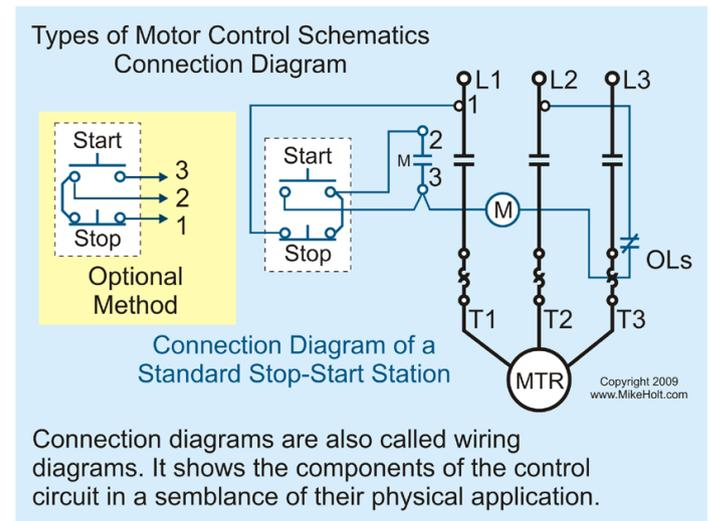

Figure 1-6
## (2) Connection Diagrams (Figure 1-6)
Connection diagrams, or wiring diagrams, show the components of the control circuit in a semblance of their actual physical locations. The start-stop pushbutton station is shown more as an actual device in the control circuit wired to a set of contacts marked 2 and 3. In Figure 1-4, the wires on each side of the M contacts trace back to points 2 and 3 on either side of the start pushbutton. The contacts marked M in Figure 1-4 are the same contacts as those marked 2 and 3 in Figure 1-6.
Connection diagrams are also called wiring diagrams. It shows the components of the control circuit in a semblance of their physical application. Different manufacturers of control devices, as well as books about motor controls, use different methods of showing the control circuit wiring. For example, in Figure 1-3B1, the control wiring from the start-stop pushbutton station runs to the actual connection points 1, 2, and 3. As the wiring diagrams become more complicated, the optional method shown in Figure 1-3B2 is frequently used to show the connection points for the start-stop pushbutton station. Here, in Figure 1-6, instead of running the control wires to the actual connection point, arrowed lines represent connections to be made by the installer.
Pictorial diagrams are often used in educational material and as exploded views or cut-away views in installation and maintenance literature. Pictorial diagrams help students see actual devices and components used in motor control circuits and how they relate to the symbols used in ladder diagrams and wiring diagrams. For example, the start pushbutton we mentioned earlier has wires run to the device that contains the set of contacts M in **Figure 1-4**, and to contact points 2 and 3 in **Figure 1-6**.